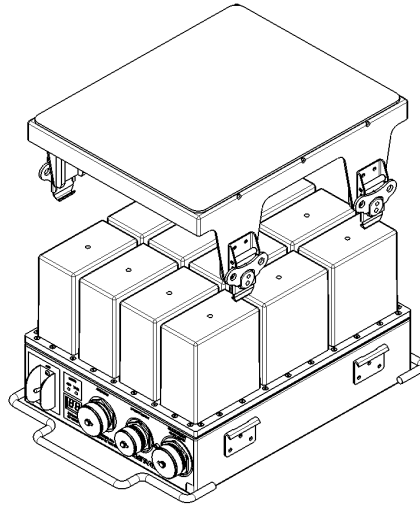

Figure 3-5 Battery Installation
- Once the batteries are installed in the unit, place the Battery Latching tray on the unit. Secure the four latches in place by twisting the buckle clockwise and folding towards base of the unit to lock. See figure 3-5 for guidance.